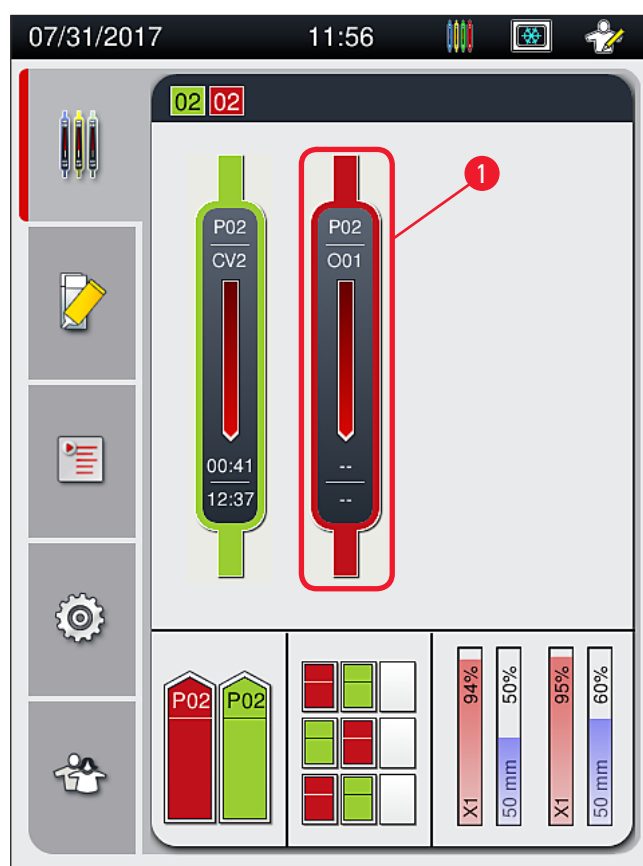
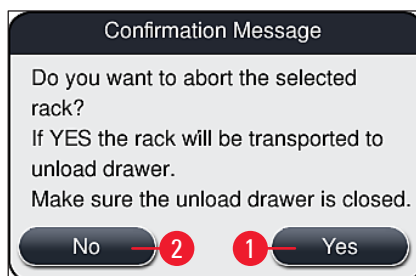

Fig. 79
Fig. 81
- ① Coverslipping operations can only be canceled using the process status display (→ Fig. 79).
After pressing the **Abort Rack** (→ Fig. 80-1) button, an information message is displayed (→ Fig. 81). Confirm the cancellation with the button **Yes** (→ Fig. 81-1) or press **No** (→ Fig. 81-2) to return to the process status display (→ Fig. 79).